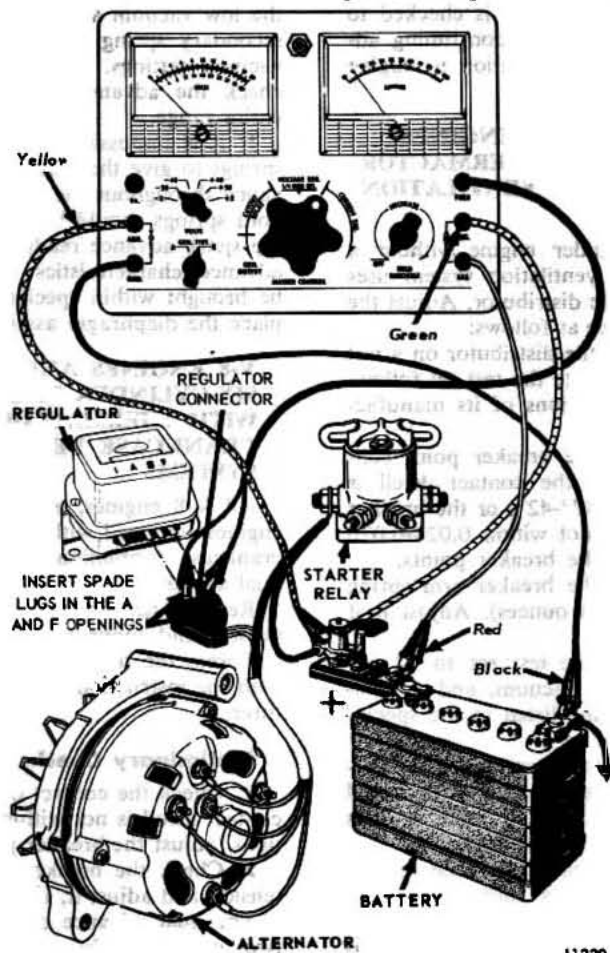

Fig. 109—Alternator Output Test
2. Make the connections as shown in Fig. 109. Be sure that the field resistance control is at the OFF position at the start of this test.